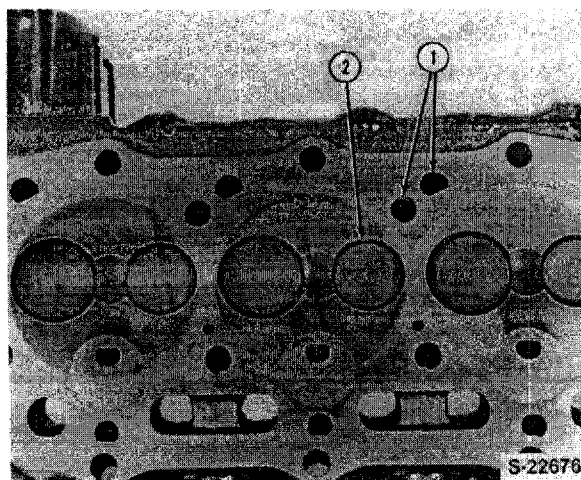

Figure 14
4. Check the head for cracks or damage, Figure 14, in the following areas: